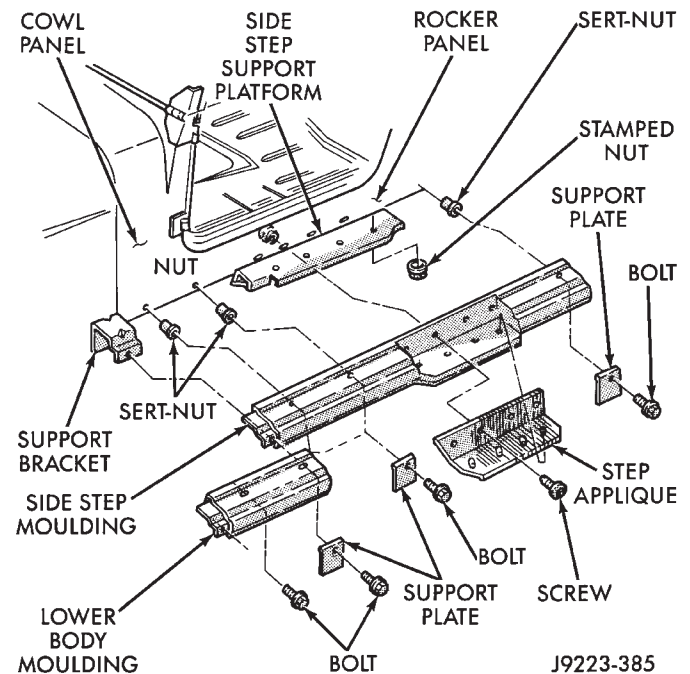

Fig. 39 Side Step Support Platform and Moulding/ Applique
(2) Remove the retaining bolts and the lower body moulding from the support bracket and cowl side panel (Fig. 39).
(3) Remove the retaining bolts/screws, the applique and the side step moulding from the cowl side panel/rocker panel (Fig. 39).
(2) Install the side step moulding and applique on the cowl side panel/rocker panel (Fig. 39). Install and tighten the moulding retaining bolts to 11 N·m (96 in-lbs) torque. Install and tighten the applique retaining screws to 41 N·m (30 ft-lbs) torque.
(3) Install the lower body moulding on the support bracket and cowl side panel with the retaining bolts and (Fig. 39). Tighten the moulding retaining bolts to 11 N·m (96 in-lbs) torque.